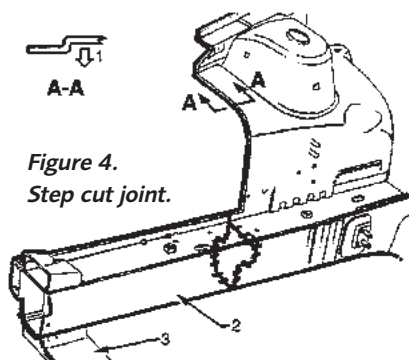

Figure 4. Step cut joint.
Accurately step cut a section of the replacement chassis rail (2) to align with the existing rail, as shown in figure 4, then clamp into position. Fit up and clamp the front crossmember (3) into position and recheck that all body dimensions are correct. Then fully weld the stepped rail joint into place using a MIG butt weld. The front crossmember is then welded into place using Holden approved spot welds or tested MIG plug welds.